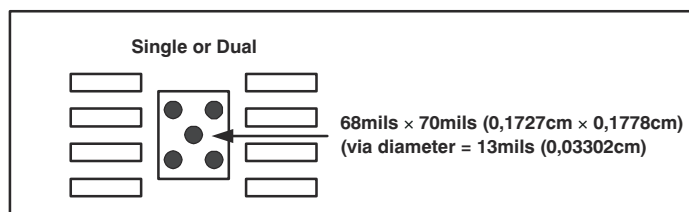

Figure 8-4. PowerPAD Integrated Circuit Package PCB Etch and Via Pattern
2. Prepare the printed circuit board (PCB) with a top-side etch pattern, as shown in Figure 8-4. Use etch for the leads as well as etch for the thermal pad.